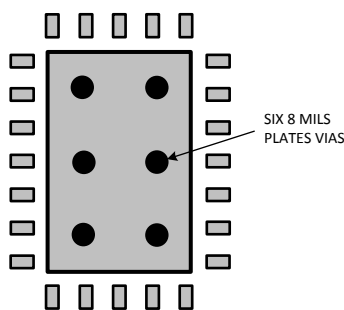

Figure 44. Recommended Land Pattern
2. Prepare the PCB with a top-side land pattern, as shown in Figure 44.
3. Place the recommended number of plated-through holes in the area of the thermal pad. These holes should be 8 mils max. in diameter. They are kept small so that solder wicking through the holes is not a problem during reflow. The minimum recommended number of holes for the 24-pin LLP is six, as shown in Figure 44.